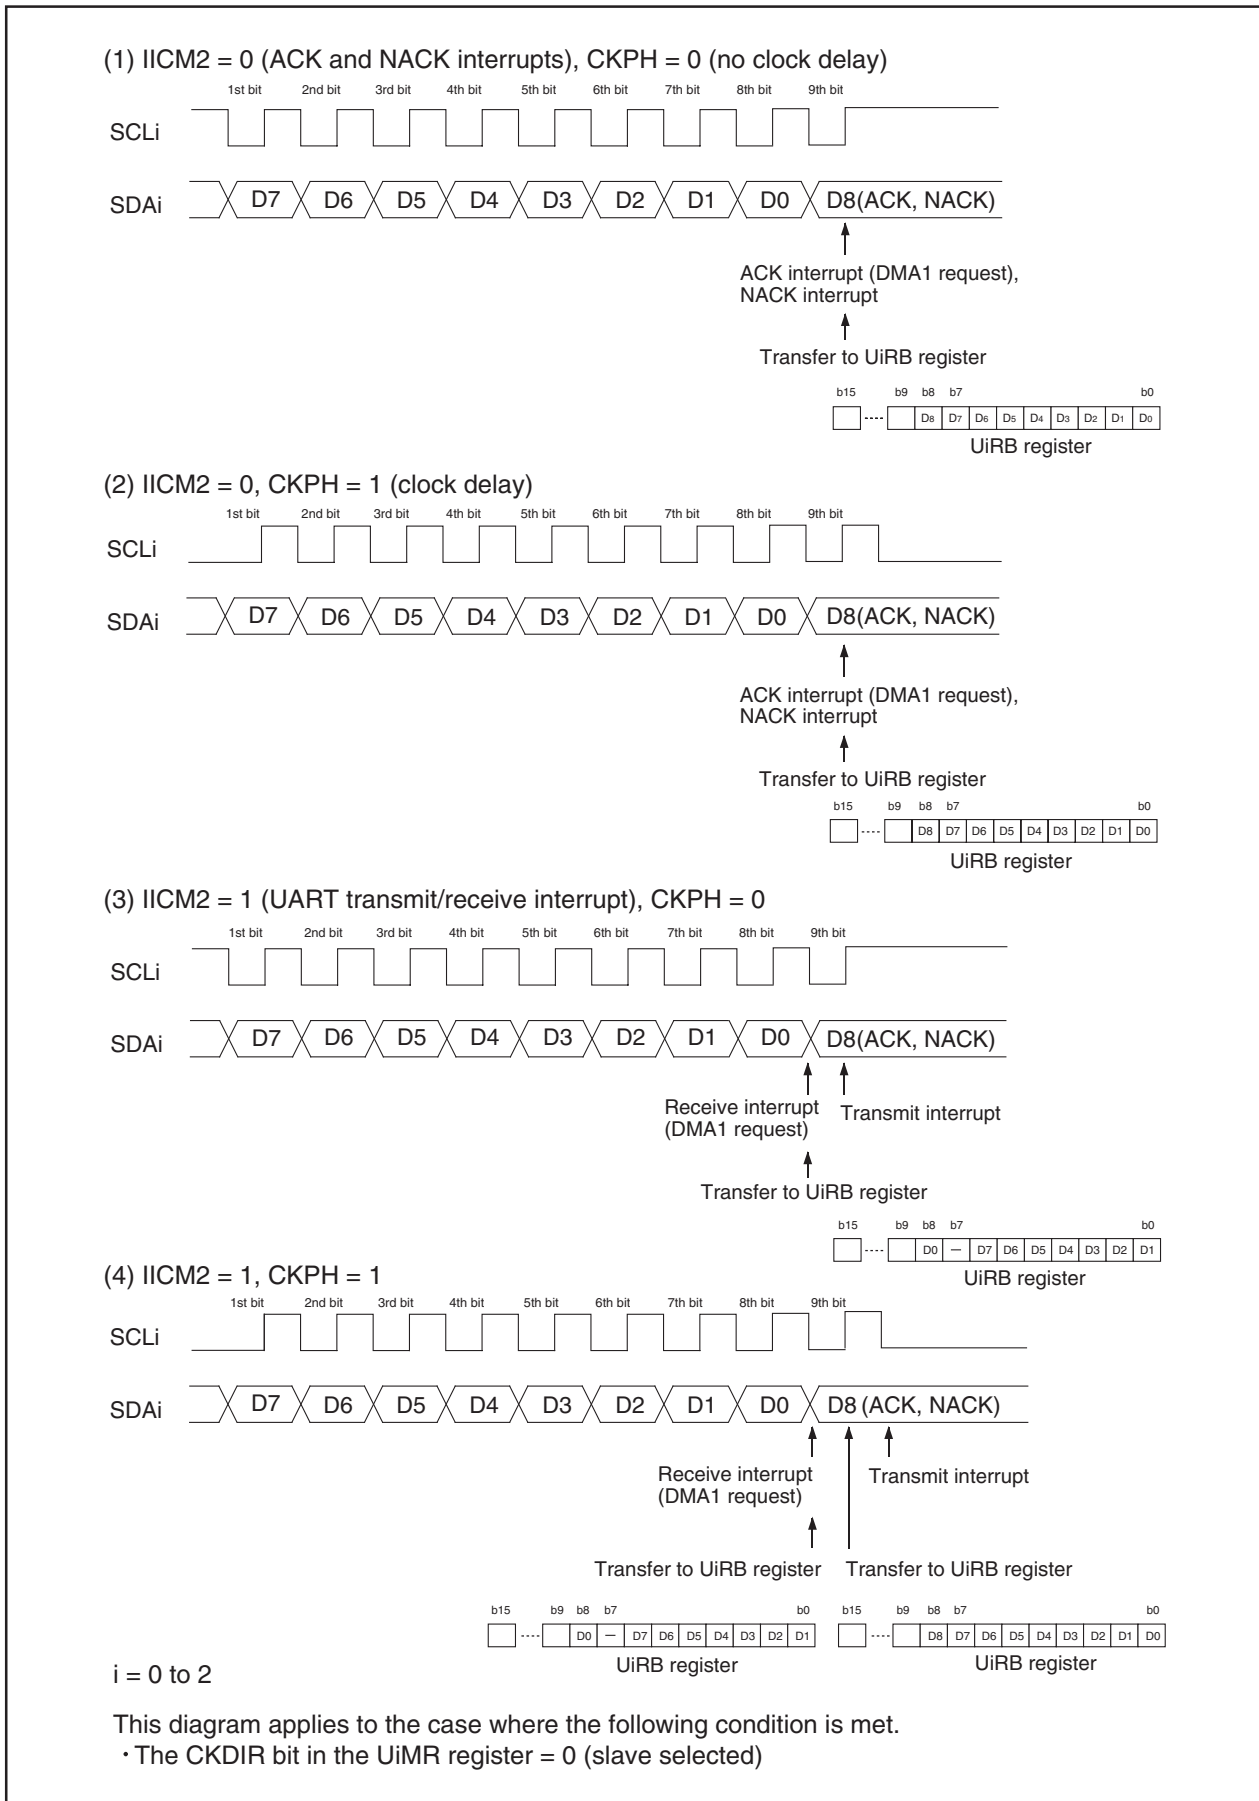

Figure 15.24 Transfer to UIRB Register and Interrupt Timing
- See **Figure 15.24 Transfer to UiRB Register and Interrupt Timing**.
Data is transmitted/received using a transfer clock like the one shown in Figure 15.24 Transfer to UiRB Register and Interrupt Timing.